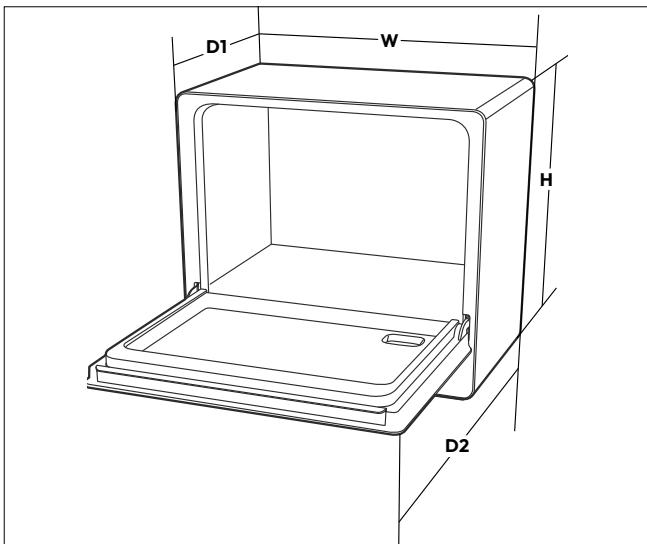

Fig. 7 – Appliance dimensions
- ▶ Observe the dimensions of the appliance when setting it up (see Fig. 7):